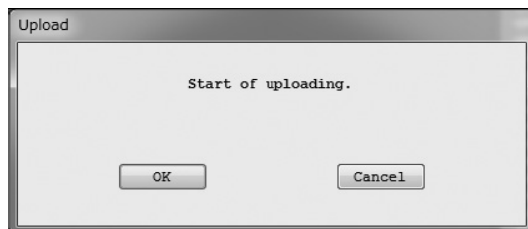
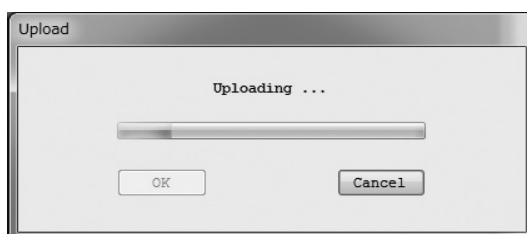

Fig.183
Fig.184
- ① Click the "File (F)" menu, and then select and click "Print Ctrl+P".
- ② A message box (Fig. 183) appears. Click "OK" to continue, or click "Cancel" to stop.
- ③ By clicking "OK" on the message box (Fig. 183), uploading of every parameter will begin (Fig. 184). Click "Cancel" to stop uploading.